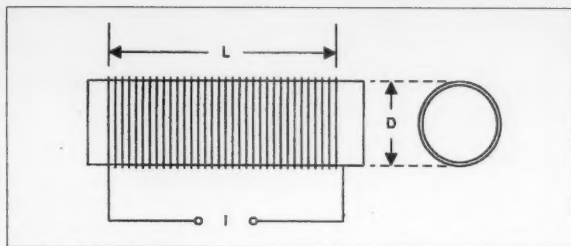

Fig. 1. Solenoid coil.
Fig. 1 shows the solenoid coil. A solenoid is a coil that is wound on a cylindrical form in which the length of the coil (L) is greater than or equal to its diameter. This type of coil is familiar to radio fans because it